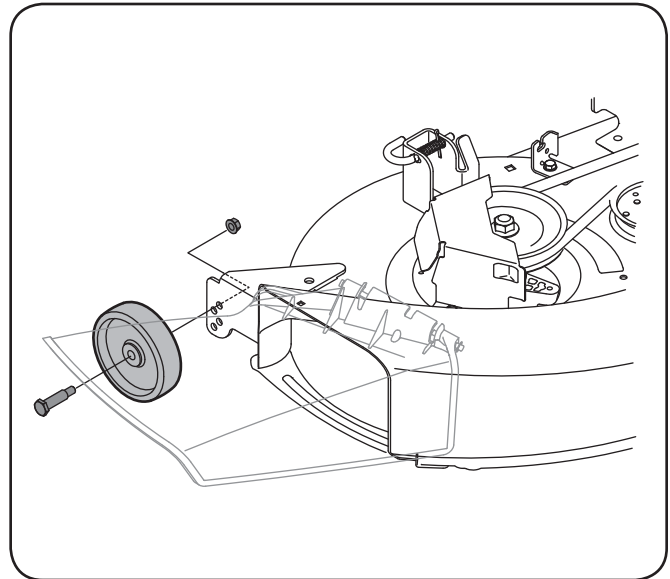

Figure 3-6
- b. Remove the gauge wheels by removing the lock nuts and shoulder screws which secure them to the deck. See Fig. 3-6.